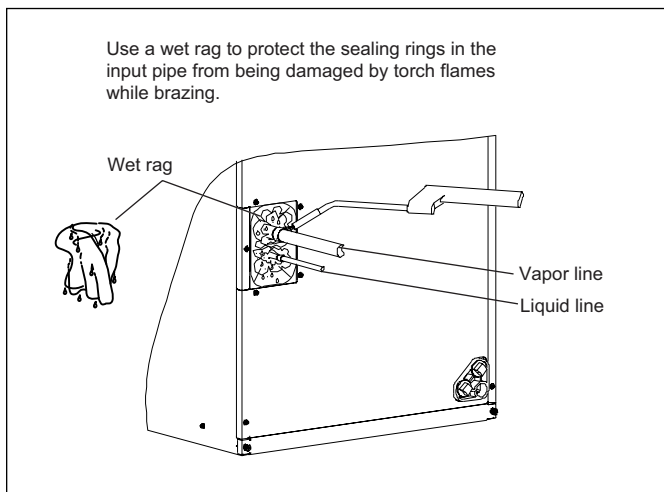

Figure 9 Protection during the brazing process
- ▶ Use a brazing shield to protect the cabinet's paint and a wet rag to protect the rubber grommet and input pipe's piston seal ring from being damaged by torch flames. Use a wet rag or an approved heat paste to protect the TXV sensing bulb during the brazing process. Refer to Figure 9.